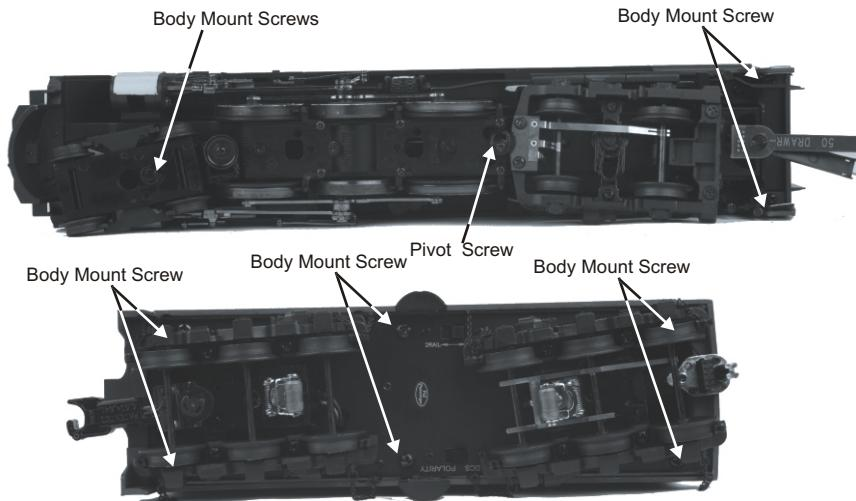

Figure 13: Removing the Body
1. Remove boiler shell by removing the 3 Body Mount Screws shown in figure 13 on page 17..